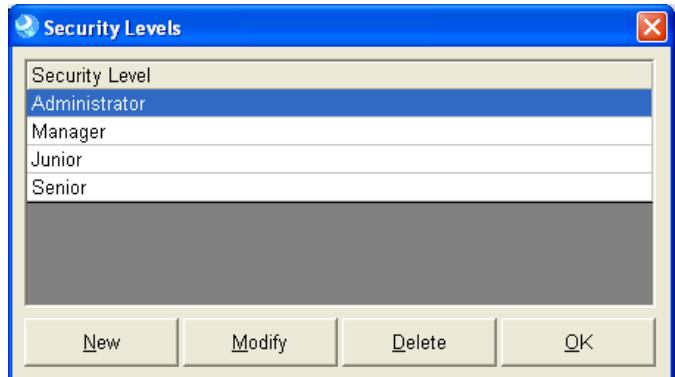

Figure 237
2. This will display the 'Security Levels' window (see Figure 237).